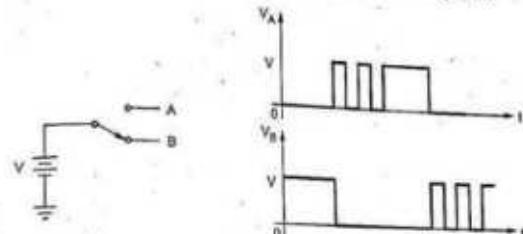

Fig. 5.7.1 Effect of key debounce
- Push button keys when pressed bounce a few times, closing and opening the contacts before providing a steady reading, as shown in the Fig. 5.7.1.